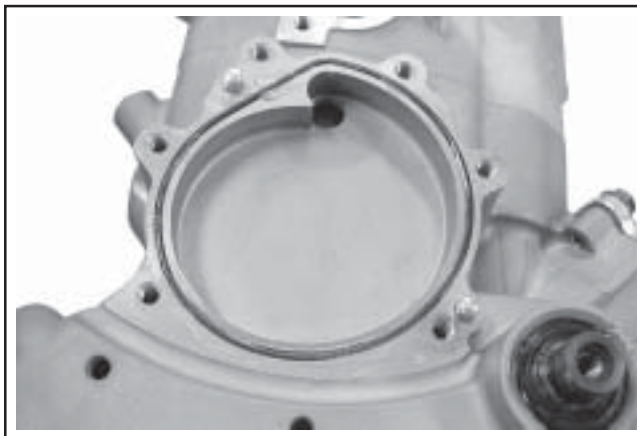

Figure 11-45. Using Grease in O-Ring Groove of Pump Cavity.
4. Apply a small amount of grease in several locations to hold the new water pump O-Ring in place. Install a **new** O-Ring in the groove of crankcase. See Figures 11-45 and 11-46. **Do not** use RTV sealant in place of the O-Ring, or attempt to reinstall a used O-Ring.